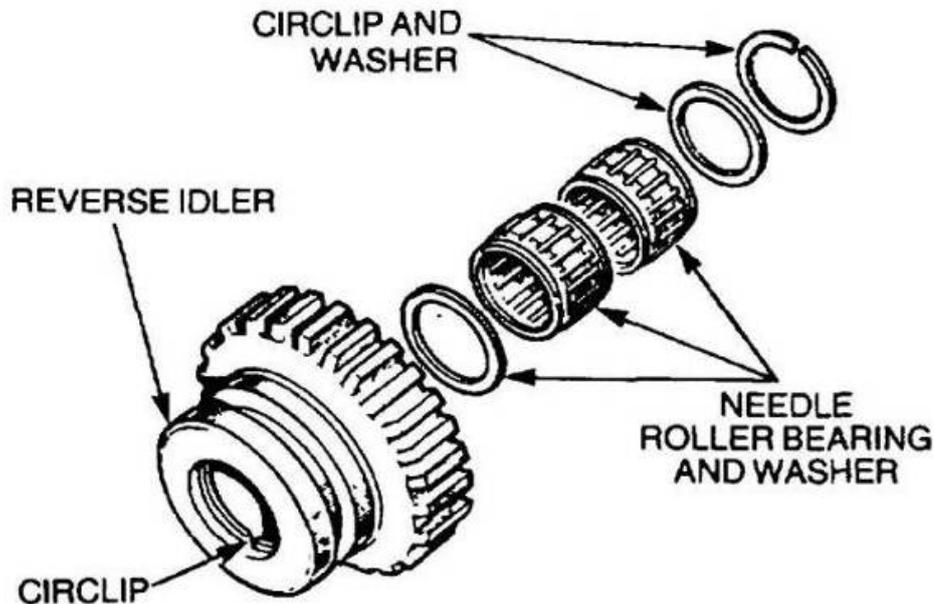

Figure 166 Reverse Idler - Exploded View
- r. Remove the circlips retaining the needle roller bearings in the reverse idler. Remove the bearings and washer (Figure 166). Discard the circlips and bearings.